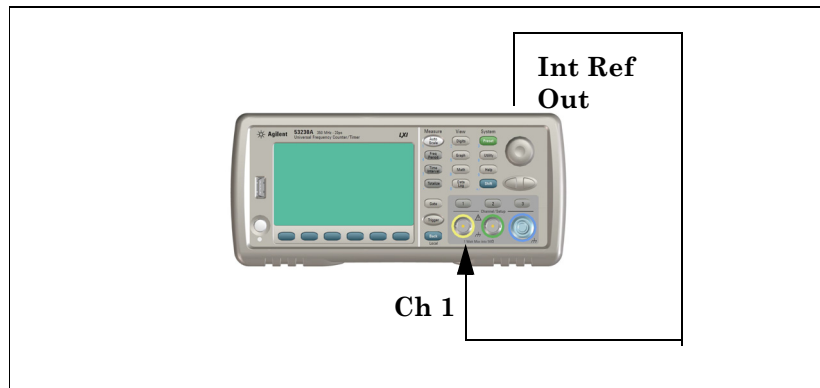

Figure 1-1. Operational Verification Setup for Agilent 53210A/220A/230A
- 1 **Connect the counter’s rear-panel *Int Ref Out* as shown in Figure 1-1 to the front panel Channel 1 input connector.**